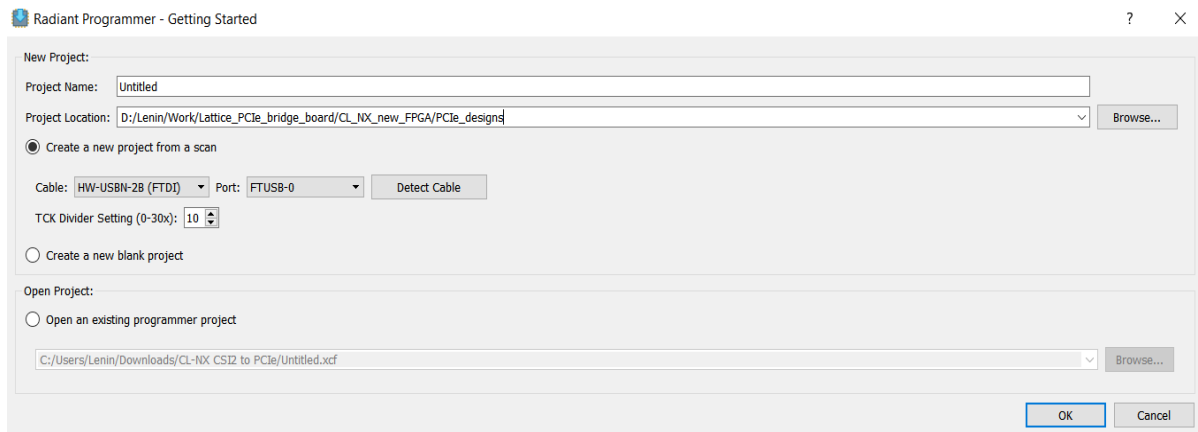

Figure 3.4. Creating a New Project from a Scan
1. Create a new project using the Lattice Radiant Programmer software. In the **Getting Started** dialog box, indicate **Project Name** and **Location** as shown in Figure 3.4.